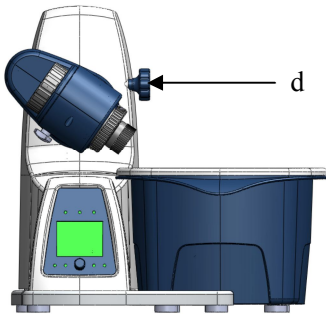

Figure 8
- Set the drive at an angle of approx. 30° (Figure 8)